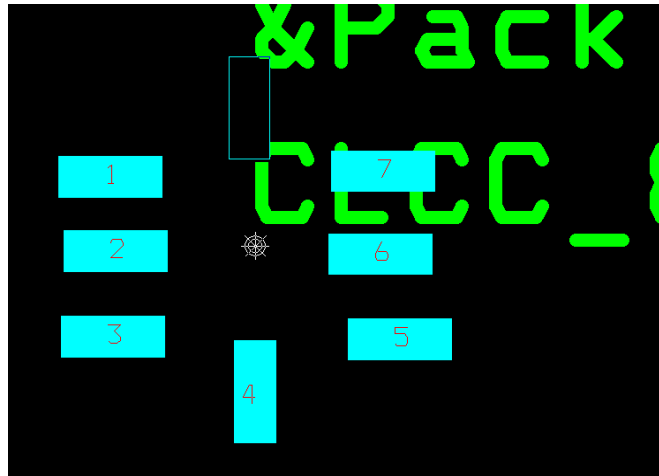

Figure 3.13: Placing the eight CLCC Pads.
19. Place the eight pads in their approximate location. To change a pad's orientation, type the letter R, and the pad will rotate by 90 degrees. **(See Figure 3.13)**